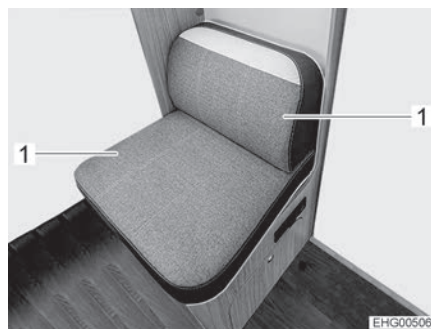

Fig. 18 Bench
- Remove two cushions (Fig. 18,1).